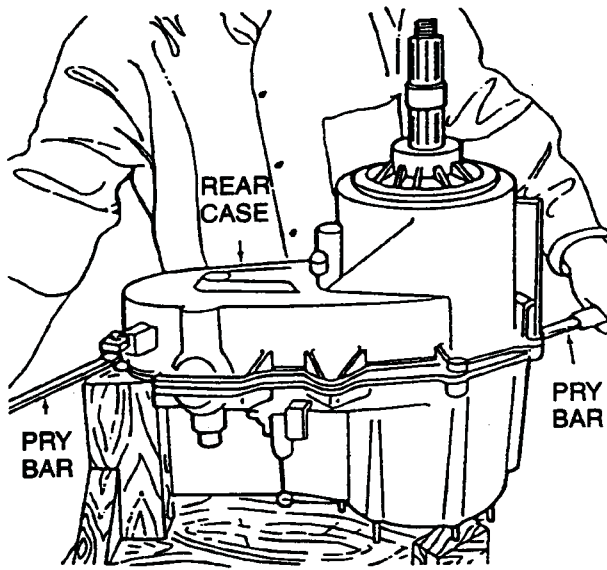

Fig. 4-5 Remove Rear Case
8. Remove rear case from front case with pry bars or two screwdrivers (Fig. 4-5).